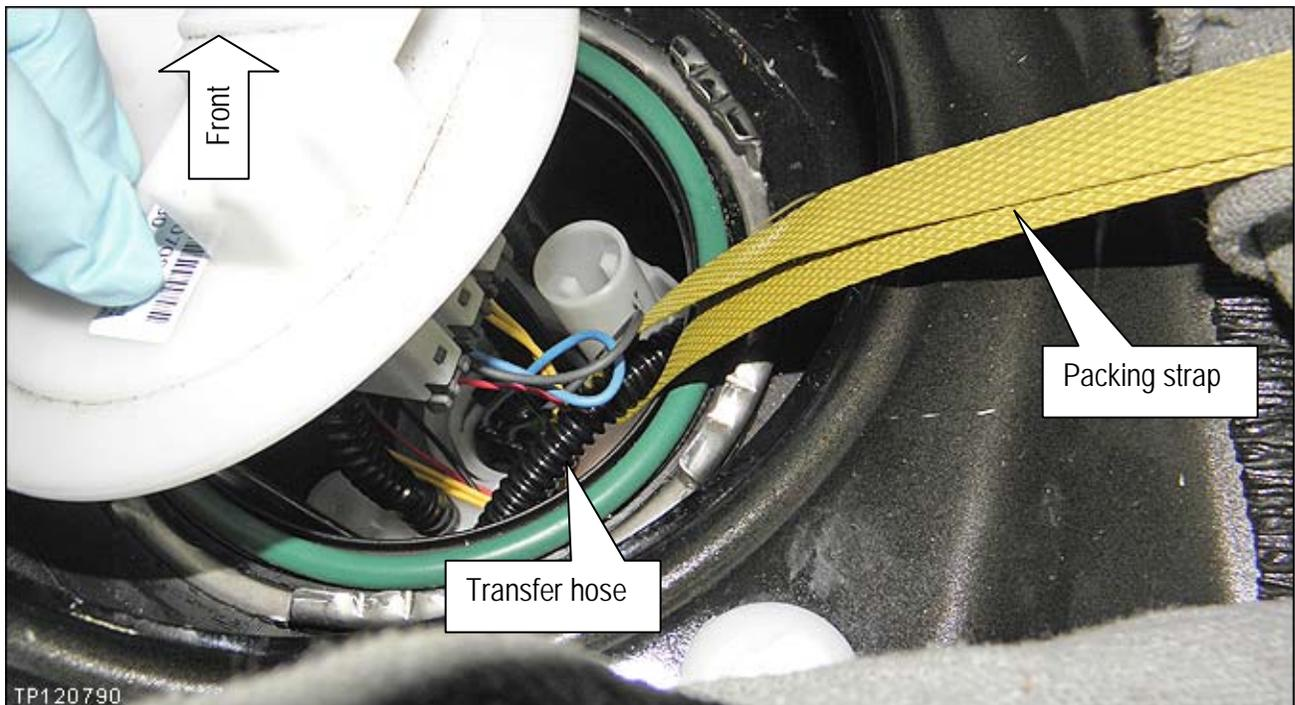

Figure 22
- g. Pull up on the packing strap (pull the transfer hose up) just enough to see the transfer hose (see Figure 22).
NOTE: If you are unable to pull the transfer hose so it can be seen as shown in Figure 22, remove the fuel pump from the tank and restart from the beginning of step 19.